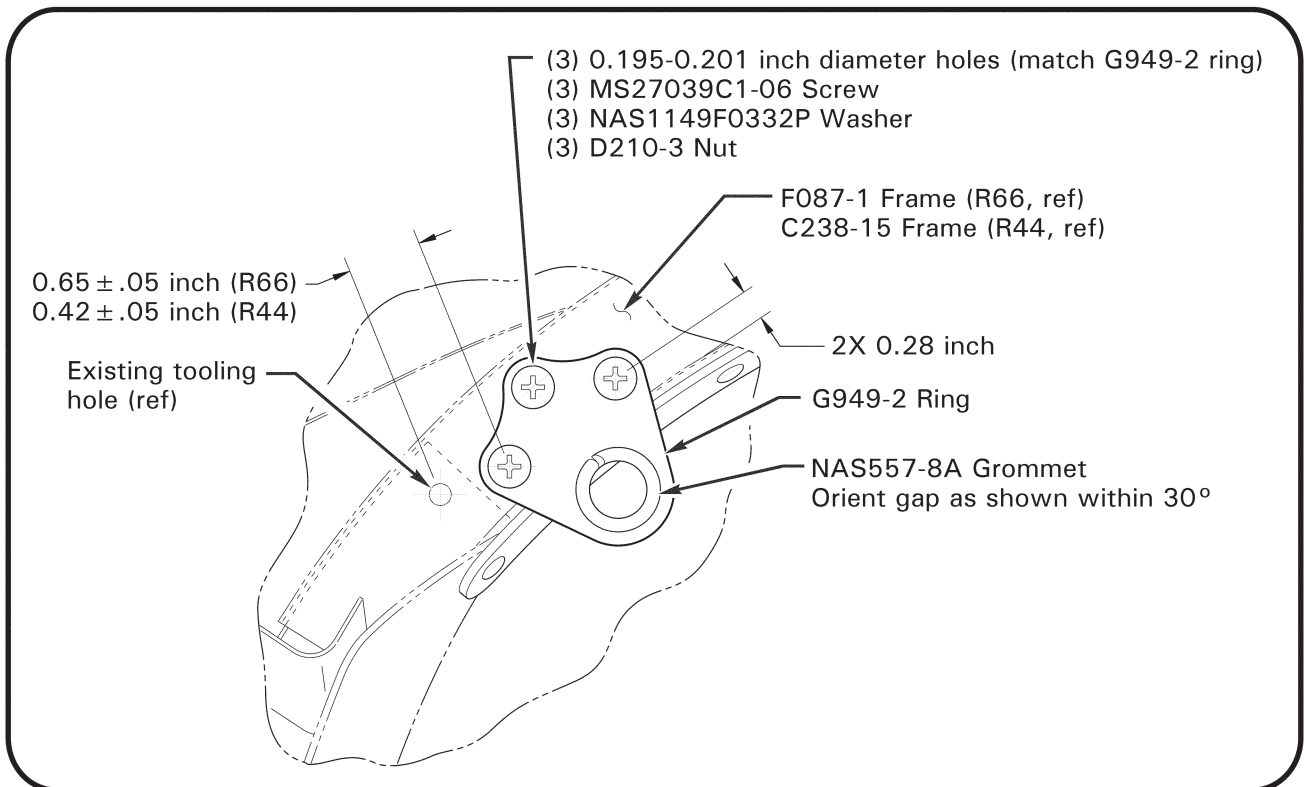

FIGURE 3 G494-2 Ring
4. Refer to Figure 3. Position G949-2 ring on frame and clamp to frame. Using ring as drill guide, progressively drill specified holes and install clecos. Remove ring.
8. Refer to Figure 3. Install G949-2 ring onto frame using hardware as shown.